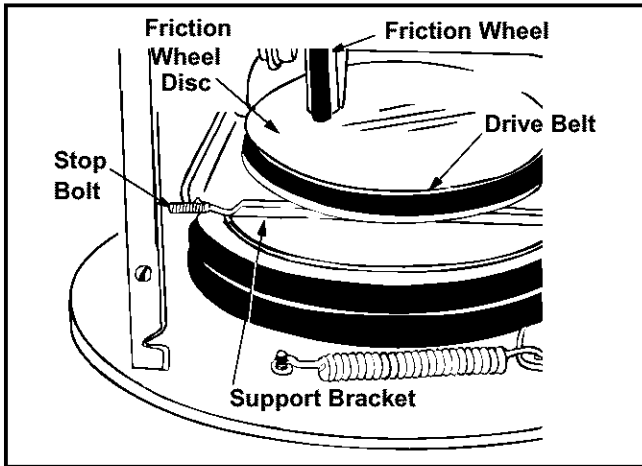

Figure 25
- Back out the stop bolt to allow the belts to slip between the bolt and auger pulley. See Figure 25.
- Back out the stop bolt until the support bracket rests on the auger pulley. See Figure 25.
NOTE: The support bracket must rest on the stop bolt after the new belt has been assembled. See Figure 25.